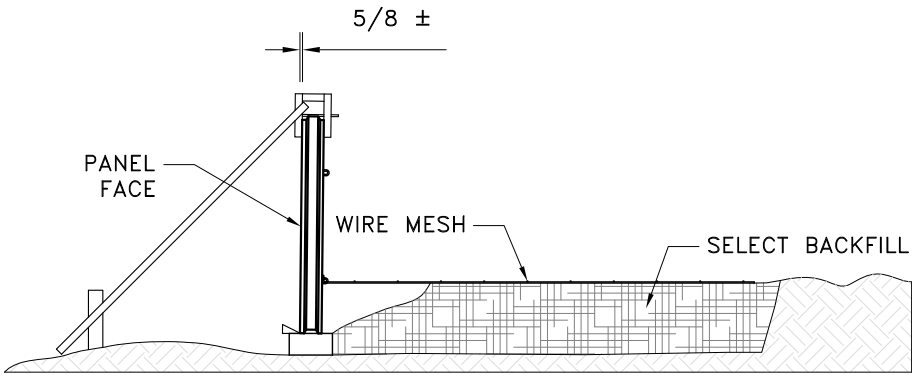

FIGURE 3
I) PLACE AND COMPACT APPROVED BACKFILL TO THE LEVEL OF THE FIRST ROW OF LOOP CONNECTORS USING THE MAXIMUM LIFT HEIGHT REQUIRED BY THE PROJECT SPECIFICATIONS (FIG. 3). DO NOT PLACE THE FIRST LIFT OF BACKFILL DIRECTLY AGAINST THE PANELS. COMPACT THE ZONE WITHIN 3 FEET OF THE BACK OF THE WALL FACING PANEL WITHOUT CAUSING DAMAGE TO OR DISTORTION TO THE WALL FACING PANELS BY USING LIGHT MECHANICAL TAMPERS APPROVED BY THE ENGINEER.